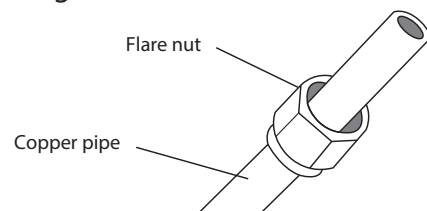

Fig. 7.5
3. Place flare nuts on both ends of pipe. Make sure they are facing in the right direction, because you can't put them on or change their direction after flaring. See Fig. 7.5